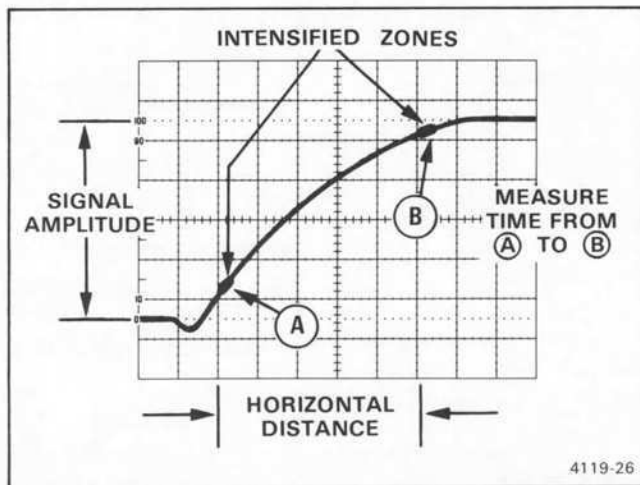

Figure 25. Rise time, differential time method.
4. Vertically position the trace so that the zero reference of the waveform touches the 0% graticule line and the top of the waveform touches the 100% graticule line (see Figure 25).
8. Adjust the B DELAY TIME POSITION control to move the start of the reference point (left-hand edge) until it just touches the intersection of the signal and the 10% graticule line (see Figure 25, Point A).
9. Adjust the  $\Delta$  TIME POSITION control to move the start of the measurement point (left-hand edge) until it just touches the intersection of the signal and the 90% graticule line (see Figure 25, Point B).